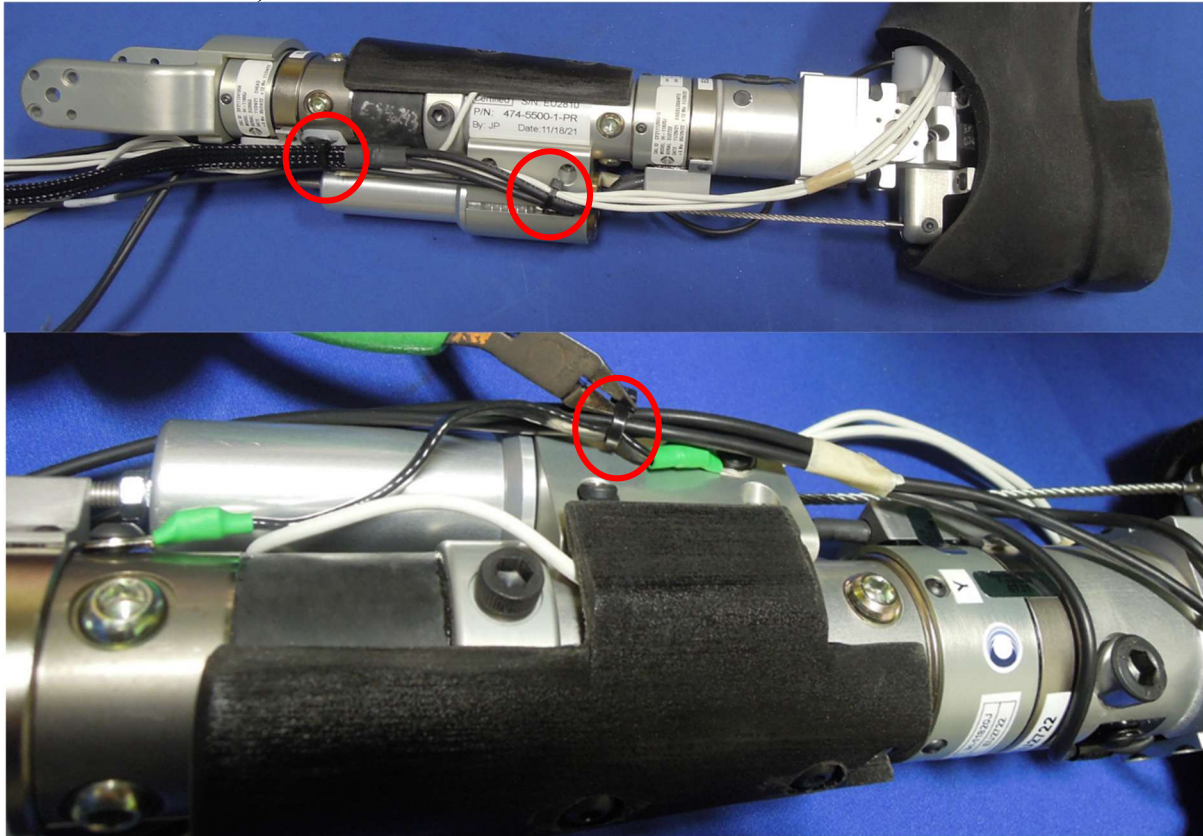

Figure 10-5. Remove the cable ties connecting the wire bundles to the lower leg
- 10.2.1 After the lower leg has been separated from the upper leg (Steps 9.2.4 - 9.2.8), remove the cable ties connecting the wire bundles to the lower leg (Figure 10-5).